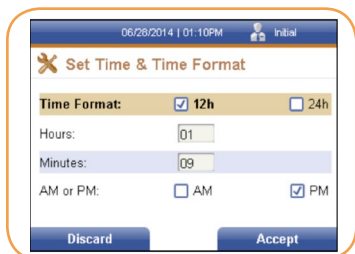

FIGURE 10
1. Press the right soft key to select Time & Time Format. The Set Time & Time Format screen is displayed (Figure 10).